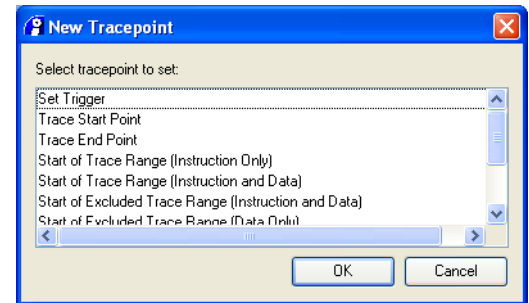

Figure 6-1 New Tracepoint dialog box
2. Select **Insert Tracepoint...** from the context menu to open the New Tracepoint dialog box. Figure 6-1 shows an example: